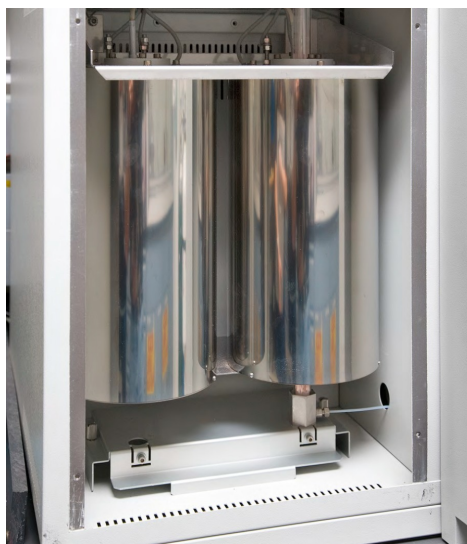

Figure 5. Interior Furnace Compartment
4. Furnace (furnace cover plate shown in Figure 4; opened plate in Figure 5)